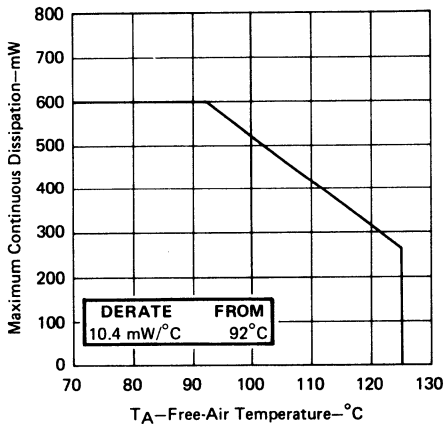

FIGURE 22
3. For operation of SN55183 above 70°C free-air temperature, refer to Dissipation Derating Curve, Figure 22.